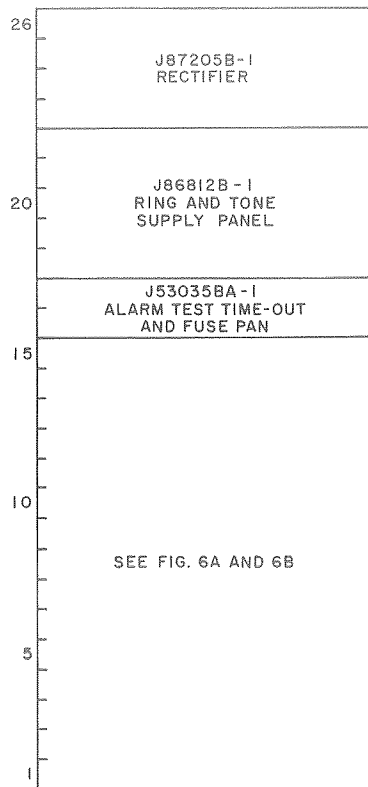

Fig. 6 - Slide No. 1
4.00 EQUIPMENT (See Fig. 6, 7, and 8.)
slide No. 1 (see Fig. 6). When equipped for thirty lines, space is available for only four DSS relay units. When equipped for forty lines, there is no space within the cabinet and all DSS relay units must be mounted in an external equipment cabinet.